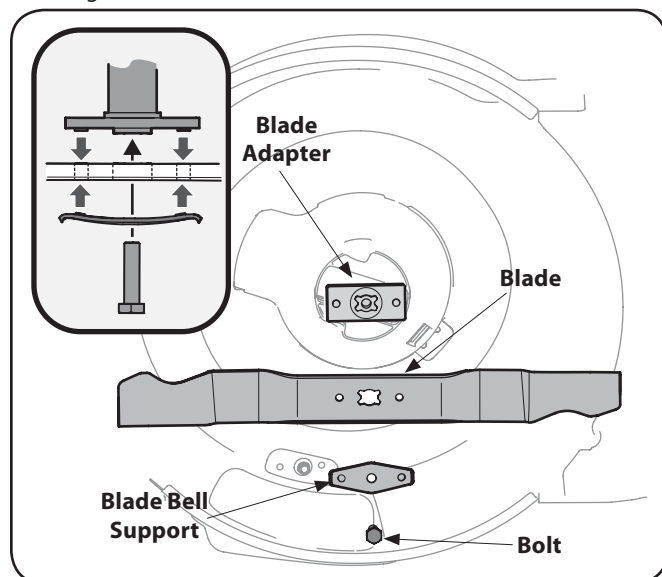

Figure 7-1
2. Remove the bolt and the blade bell support which hold the blade and the blade adapter to the engine crankshaft. See Fig. 7-1.
3. Remove blade and adapter from the crankshaft. See Fig. 7-1.
5. Lubricate the engine crankshaft and the inner surface of the blade adapter with light oil. Slide the blade adapter onto the engine crankshaft. Place the blade on the adapter such that the side of the blade marked "Bottom" (or with part number) faces the ground when the mower is in the operating position. Make sure that the blade is aligned and seated on the blade adapter flanges. See Fig. 7-1 inset.